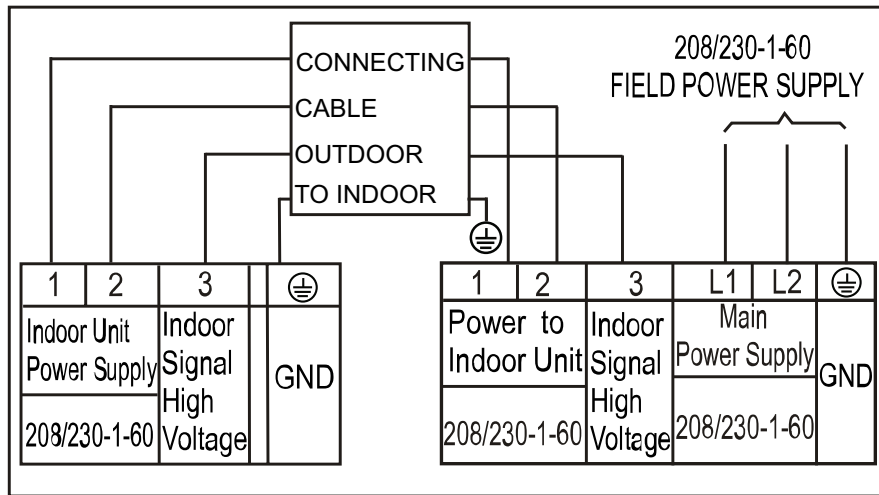

Fig. 20 — Connection Diagram Sizes 6K - 18K
2. All connections between indoor and outdoor units must be as shown in Figure 20 and 30. The connections are sensitive to polarity and will result in a fault code.